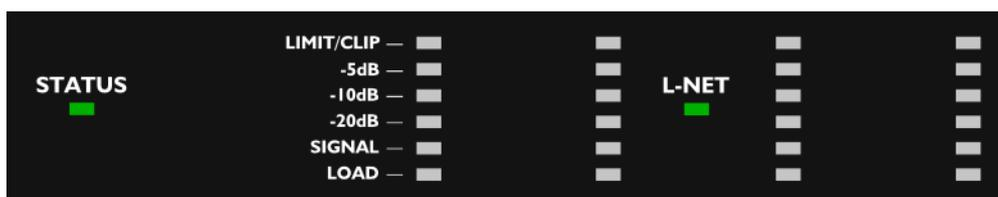

Figure 15: STATUS and L-NET LED
- green (see Figure 15) when the LA4X operates normally.
The **L-NET** LED is lit in green (see Figure 15) when the LA4X is remote controlled from software such as LA NETWORK MANAGER (refer to the **LA NETWORK MANAGER video tutorial**).